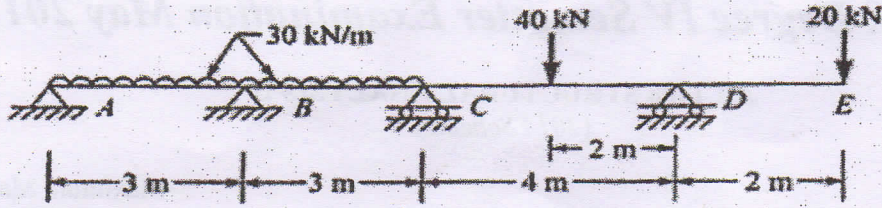

Fig.3
- V. Analyse the continuous beam ABCDE shown in fig. 3 and draw the bending moment diagram using slope deflection method. Flexural rigidity is constant throughout the beam.